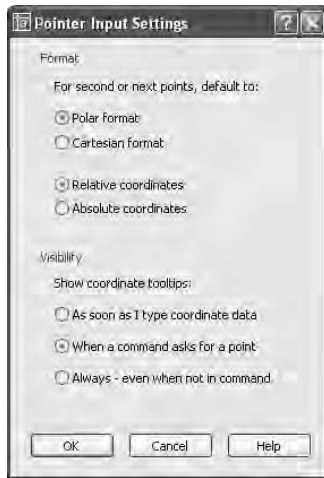

FIGURE 3.14: The Pointer Input Settings dialog box
2. In the Pointer Input area, click the Settings button to open the Pointer Input Settings dialog box (see Figure 3.14). In the Format area, the Polar Format and Relative Coordinates buttons should be activated. Click OK.